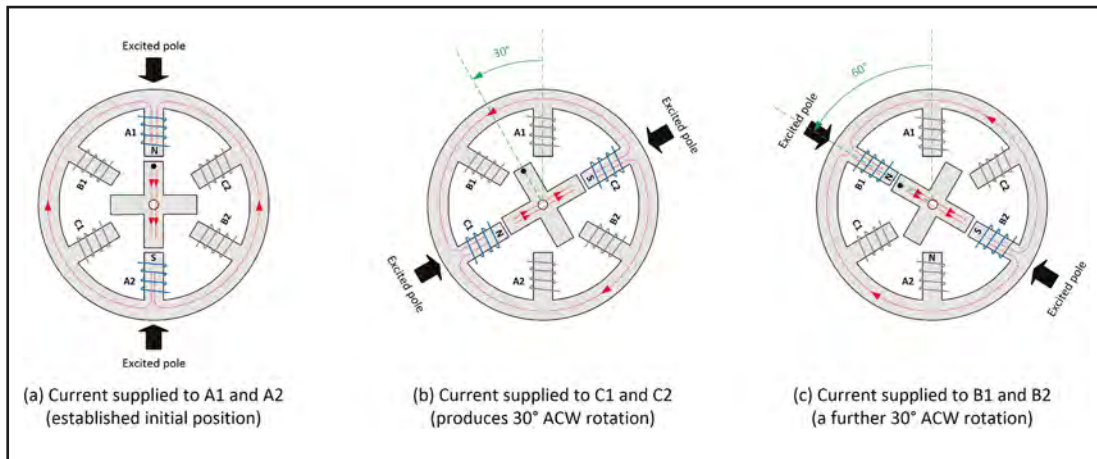

Fig.8.5. Principle of operation of the variable reluctance stepper motor shown in Fig.8.4
Fig.8.5 shows how the simple variable reluctance stepper motor can be made to turn, first through an angle of 30° anti-clockwise (ACW) and then through a further 30° ACW. The sequence of energising the motor so that it turns through a complete revolution is shown in Table 8.1 below. If the motor is to turn clockwise (CW) instead of ACW, then the required sequence is shown in Table 8.2. These sequences are generated by the indexing logic that we mentioned earlier. (Note: four complete cycles are required to turn the rotor through a complete revolution.)